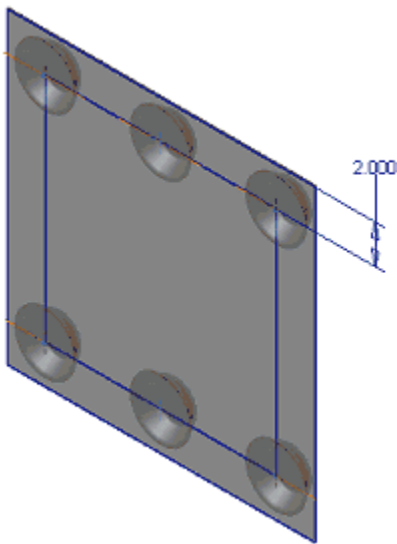

Figure 24: Punch feature preview.
10. Click the four endpoints of the offset rectangle. The preview should match the one shown in Figure 24.